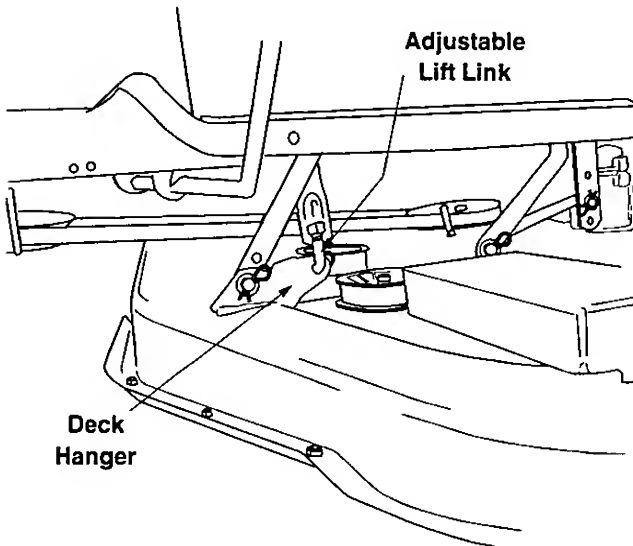

Figure 7
1. Remove the hairpin clip and flat washer from the bottom of the adjustable lift link on the left side of the deck. See Figure 7. (Hairpin clip and flat washer are on the inside of the lift link.)